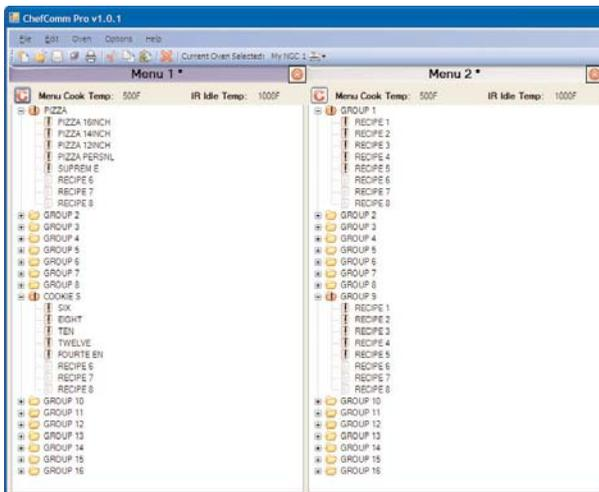

Figure 23: Compare Menus
3. Differences between the menus will be marked with “!” (Figure 23).